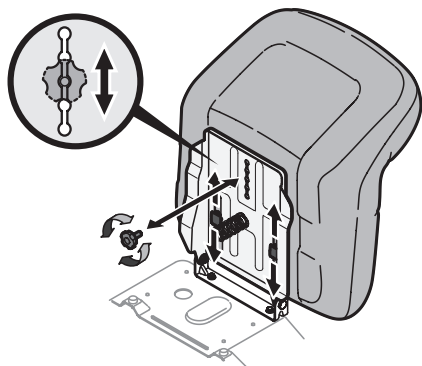

Figure 11
1. To adjust the position of the seat, remove the adjustment knob on the bottom of the seat. Slide the seat forward or backward as desired. Reinstall the adjustment knob (Figure 11).
NOTE: Make certain that the upper-rear portion of deck chute (b) is depressing the safety switch (e) located on the deck surface and under the tab (f) on the rear deck bracket (g). The engine will not start without the deck chute (b) properly in place (Figure 11).